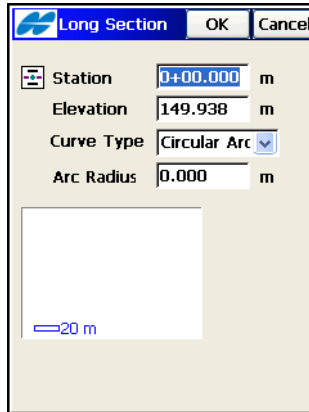

Figure 7-21. Add Long Section
- On the **Long Section** screen (Figure 7-21 on page 7-19), select the type of the curve to add from the *Curve Type* drop-down list, either *Parabola* or *Circular Arc*, and enter the station distance from the beginning of the road, the elevation